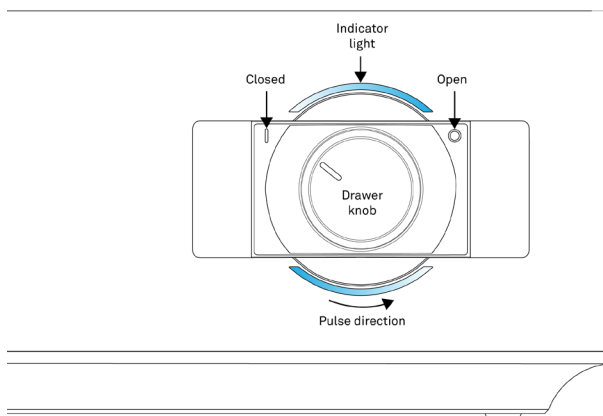

Figure 66 Front-panel drawer knob
- a. Turn the drawer knob counterclockwise (left) to the Closed position to begin the reading (Figure 66).